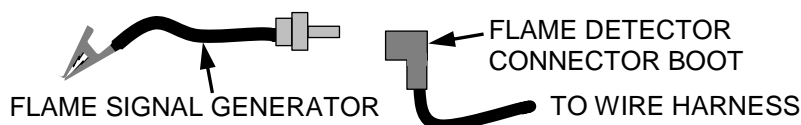

Figure 5-7: Connecting the Flame Signal Generator
- b) Push the BACK button three (3) times to return to the upper level menu.
- c) When the C-More Controller gets into the ignition phase, the control panel will show *IGNITION TRIAL*. At that point attach the alligator clip (see Figure 5-7) to any bare metal surface or ground. The C-More Controller should now show *FLAME PROVEN* and begin to ramp up to 100% fire rate. Note that no gas or flame is present in the boiler at this time.